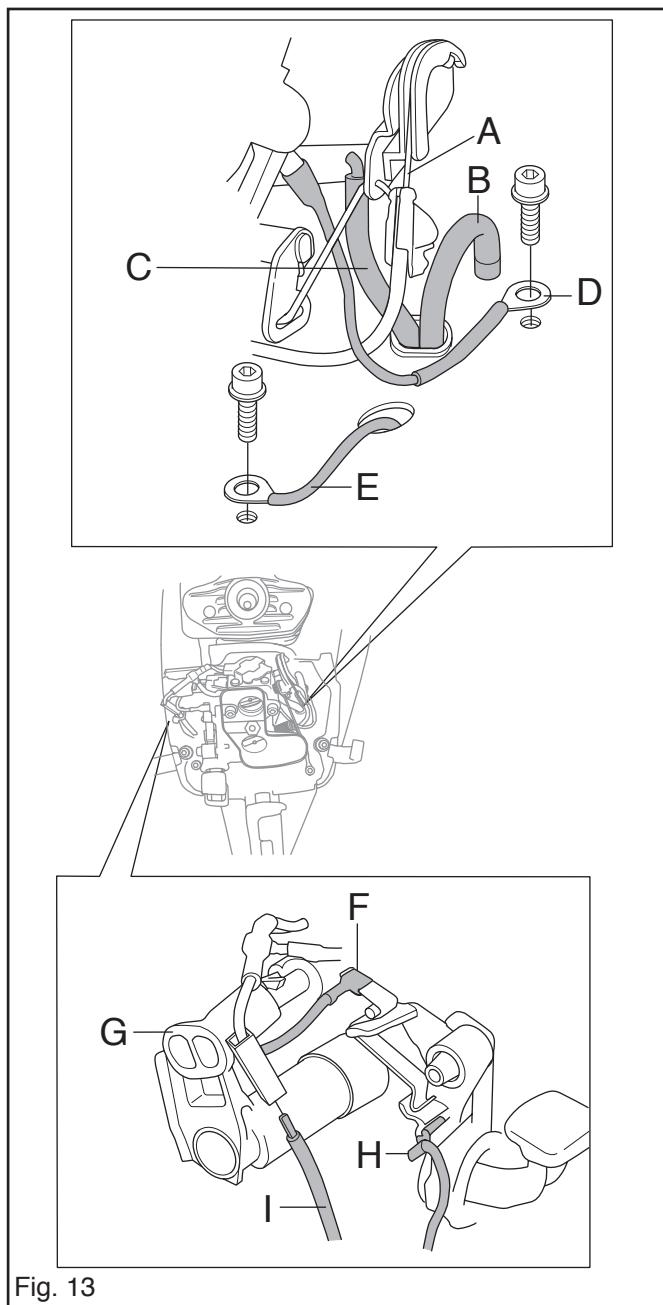

Fig. 13
4. Dismantle the throttle cable (A), impulse hose (B), fuel hose (C), earth cable (D) and (E). See fig. 13.
5. Dismantle the sleeve on the carburettor adjustment, short-circuit cables (F) and (H) and Loosen the cable (I) on the carburettor heater. See fig. 13.